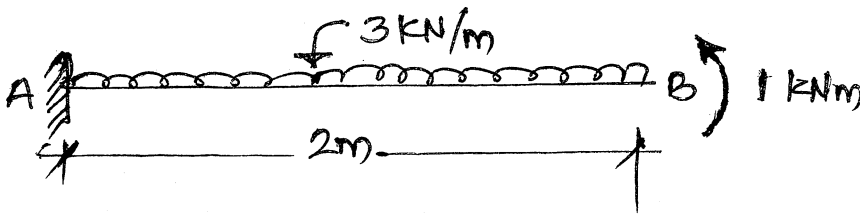

Fig. 2
- Draw SFD and BMD for the cantilever beam loaded as shown in Fig. 2.